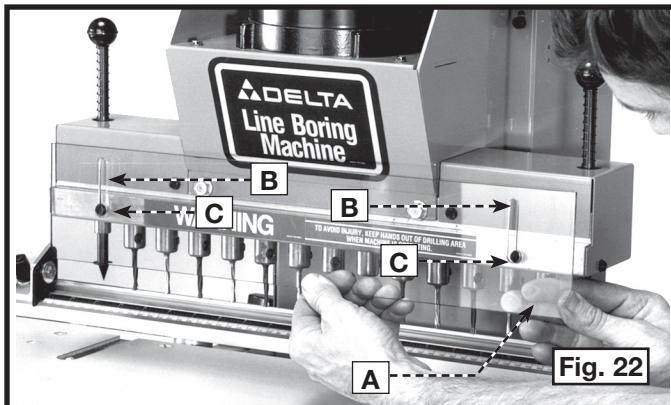

Fig. 22
2. Engage the two slots (B) Fig. 22 on the plastic guard (A) with the two spacers and screws (C) and secure the guard by tightening the screws.